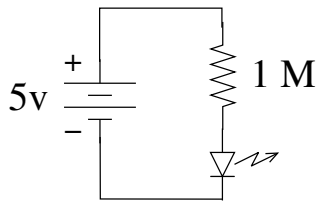

Figure 1: LED steady current drive circuit.
4. Explain why the resistor value in the constant current LED circuit shown in Figure 1 below is reasonable given the optical power desired on the photocathode. (Hint- assume that the LED converts the IV power dissipated in it into light with 100% efficiency. You may assume that the voltage drop across the LED itself is 2.5 V and that the current in the circuit adjusts itself to drop the remaining 2.5V across the resistor.)
Do not use the PMT for this part of the measurement. To measure QE we require a light source that produces photons at a known rate and directs them onto the PMT photocathode. For a light source, we use an LED driven by a DC current. The LED must be wired in forward bias, with a series resistor to limit the current, as shown in Figure 1: